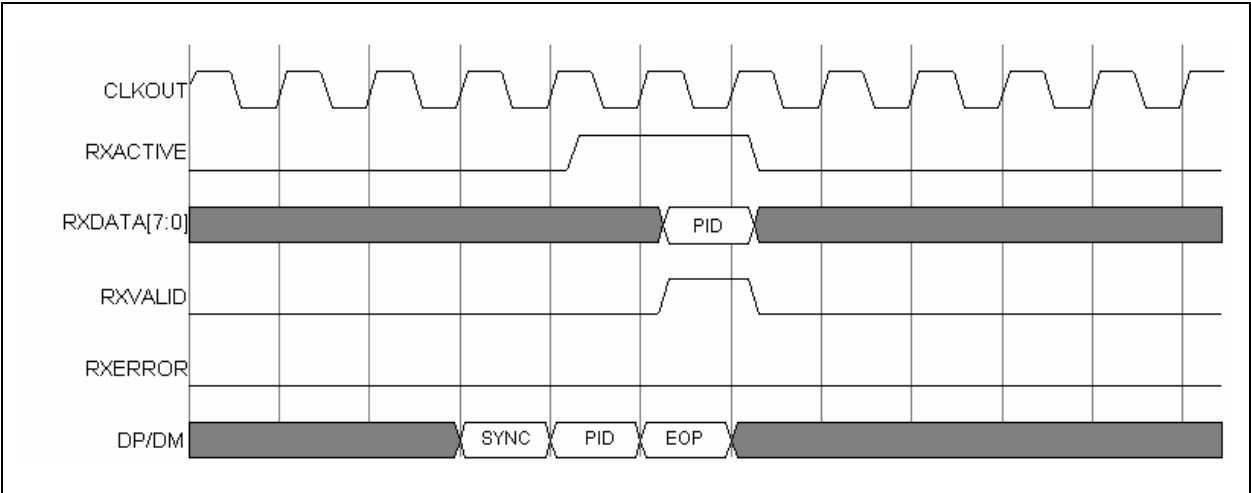
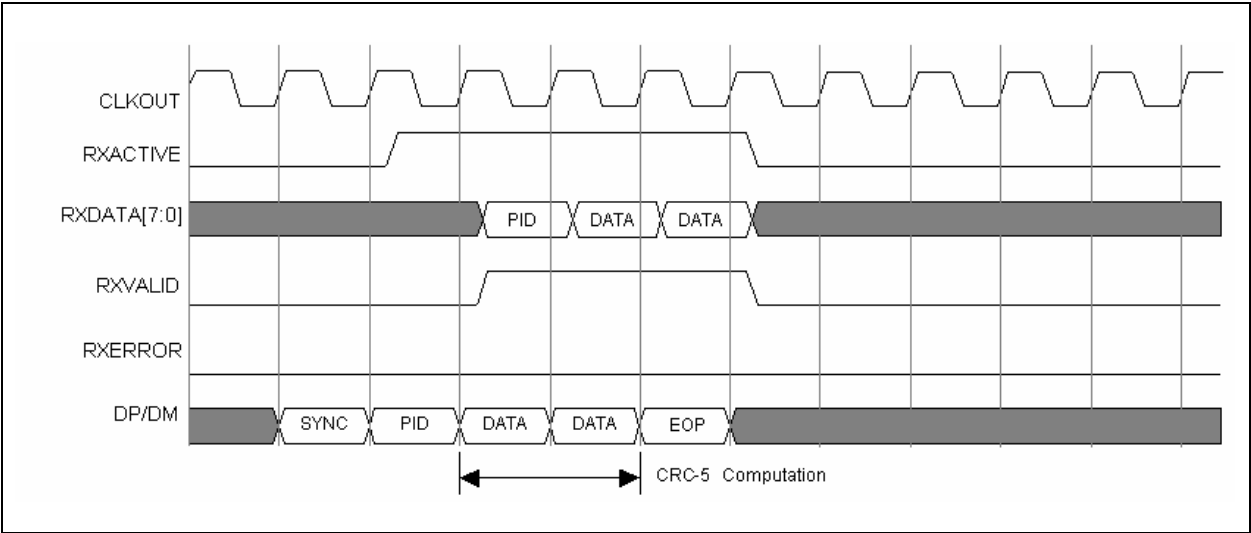
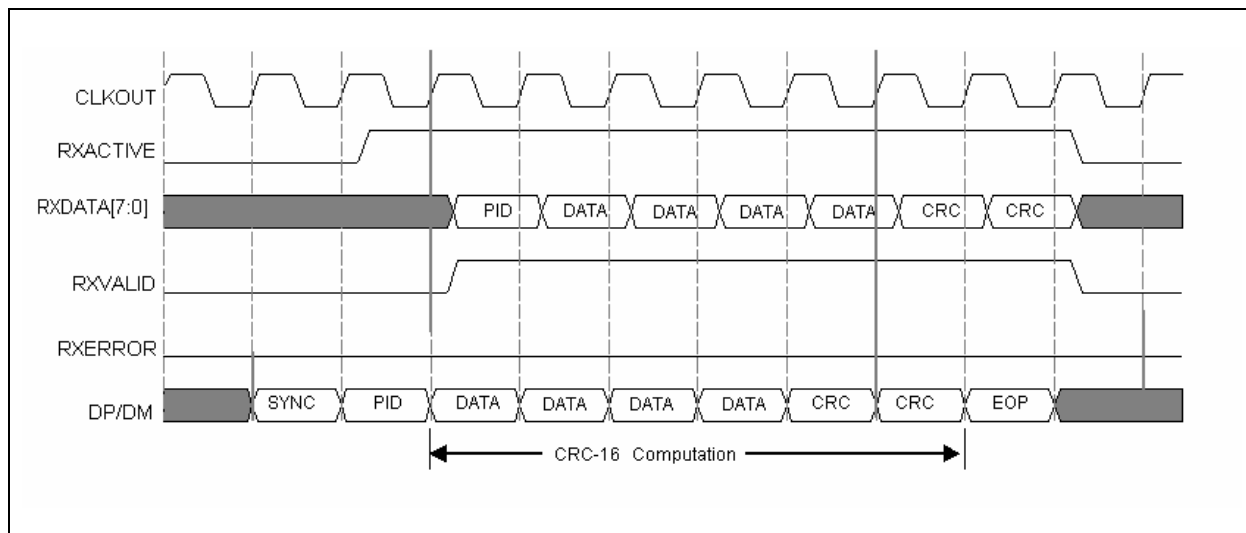

Figure 6.5 Receive Timing for a Handshake Packet (no CRC)
Figure 6.6 Receive Timing for Setup Packet
Figure 6.7 Receive Timing for Data Packet (with CRC-16)
- Figure 6.5 shows the timing relationship between the received data (DP/DM), RXVALID, RXACTIVE, RXERROR and DATA signals.
- Figure 6.5, Figure 6.6 and Figure 6.7 are timing examples of a HS/FS PHY when it is in HS mode. When a HS/FS PHY is in FS Mode there are approximately 40 CLKOUT cycles every byte time. The Receive State Machine assumes that the Link captures the data on the DATA bus if RXACTIVE and RXVALID are asserted. In FS mode, RXVALID will only be asserted for one CLKOUT per byte time.
- In Figure 6.5, Figure 6.6 and Figure 6.7 the SYNC pattern on DP/DM is shown as one byte long. The SYNC pattern received by a device can vary in length. These figures assume that all but the last 12 bits have been consumed by the hubs between the device and the host controller.